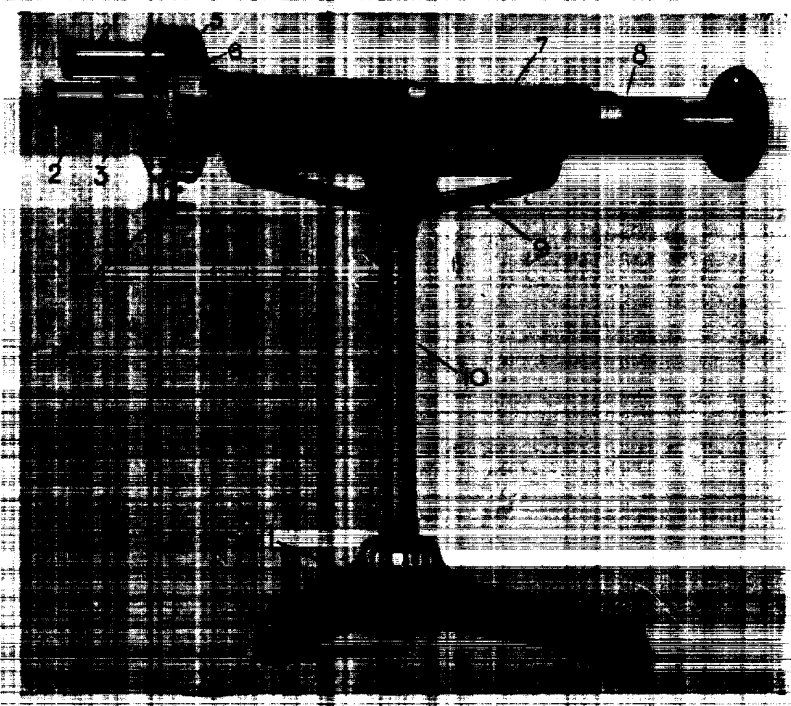

FIG. 7. Glucosimeter Model „ПГ“
The instrument (Fig. 7.) consists of the following essential parts: polarizer unit (8) mounted on the bracket away from the observation end; analyser unit (5) mounted on the observation head.